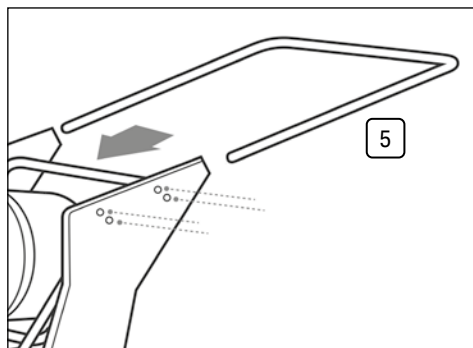

Fig. 3
6.3 Fitting Transport Handle (Fig.3)